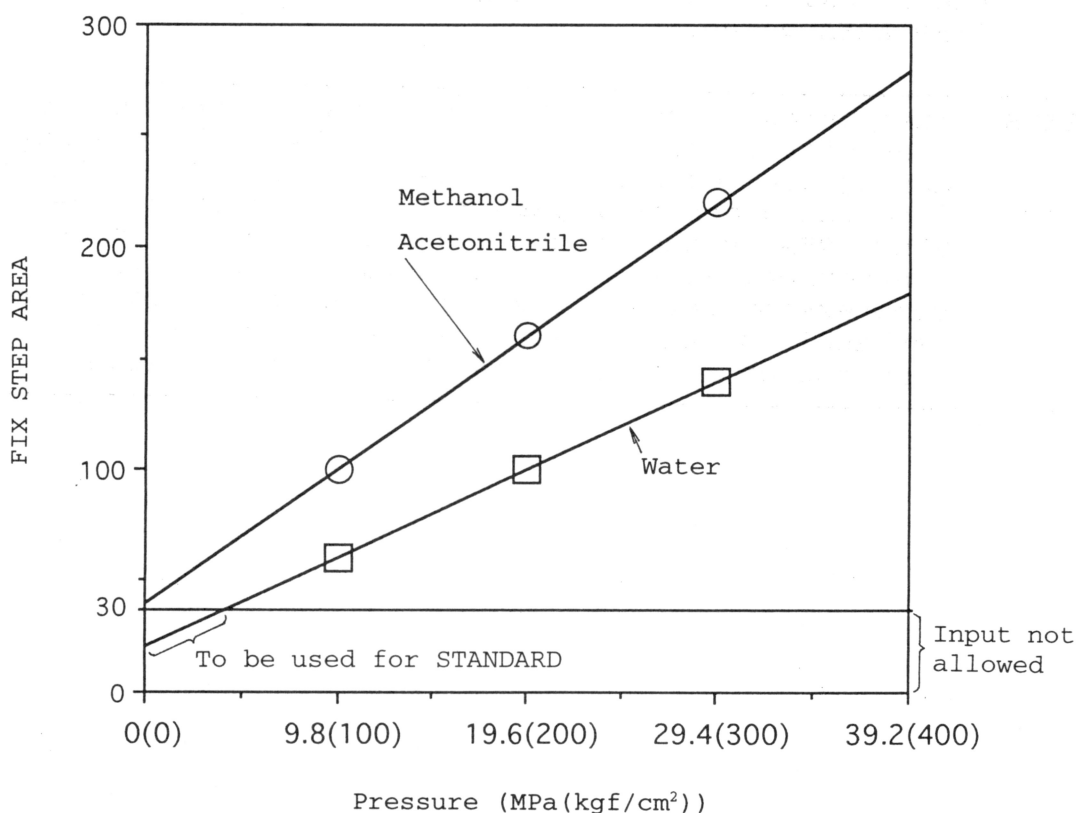

Fig. 3-4 FIX STEP AREA
The operating pressure and FIX setting of M.CONTROL with which minimum pressure variation (minimum baseline fluctuation) is obtained when using mobile phases of water, methanol and acetonitrile are shown in Figure 3-4. The input range for FIX STEP AREA is from 30 to 300. Check the pressure when supplying mobile phase and read out the FIX STEP AREA corresponding to the operating pressure from Figure 3-4.
(1) How to Adjust FIX STEP AREA
Read out a value from Figure 3-4, and enter it according to Item (3) - FIX STEP AREA Input Procedure.
(2) Fine Adjustment of FIX STEP AREA
- (b) Set pump A alone to FIX, check the pressure during operation, and input a FIX STEP AREA determined from Figure 3-4.
NOTICE: When using solvents other than water, methanol and acetonitrile as a mobile phase, check the pressure during use, obtain a hypothetical FIX STEP AREA value from the graph in **Figure 3-4**, and determine the FIX STEP AREA by the method described above. In obtaining a hypothetical FIX STEP AREA value, check if the compression rate of the solvent used is closer to methanol (high compression rate) or water (low compression rate) and use the resulting value.